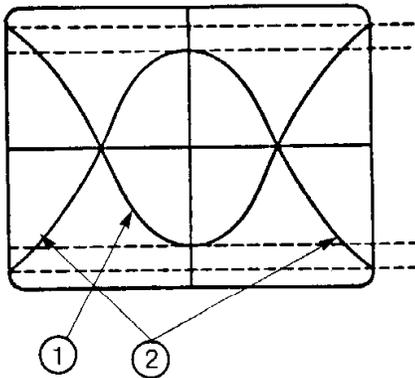
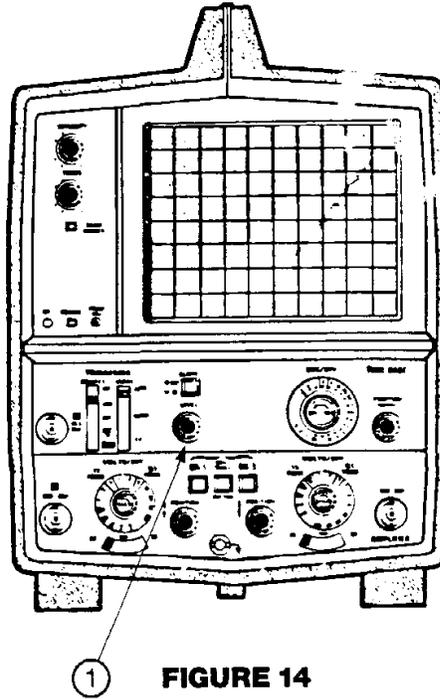

FIGURE 15
FIGURE 14
13. Type 16 and press RETURN to select Track 16. Turn the level dial (Figure 14, #1) on the oscilloscope all the way to the left and then back to the right until a "lobe" pattern first appears. For this test you will be comparing adjacent lobes (Figure 15). Adjacent lobes must have an amplitude within 80% of each other. (Figure 15, #'s 1 and 2).
17. Rotate the motor slowly clockwise until the adjacent lobes are within 80% of each other. (Figure 15, #'s 1 and 2).
20. Look at the scope display to see that the adjacent lobes are still within 80% of each other. (Figure 15, #'s 1 and 2). If they are not, loosen the mounting screws by turning them counterclockwise and rotate the stepper motor just slightly in the clockwise direction. Don't forget to tighten down the screws again by turning them clockwise when the adjacent lobes are within 80% of each other.